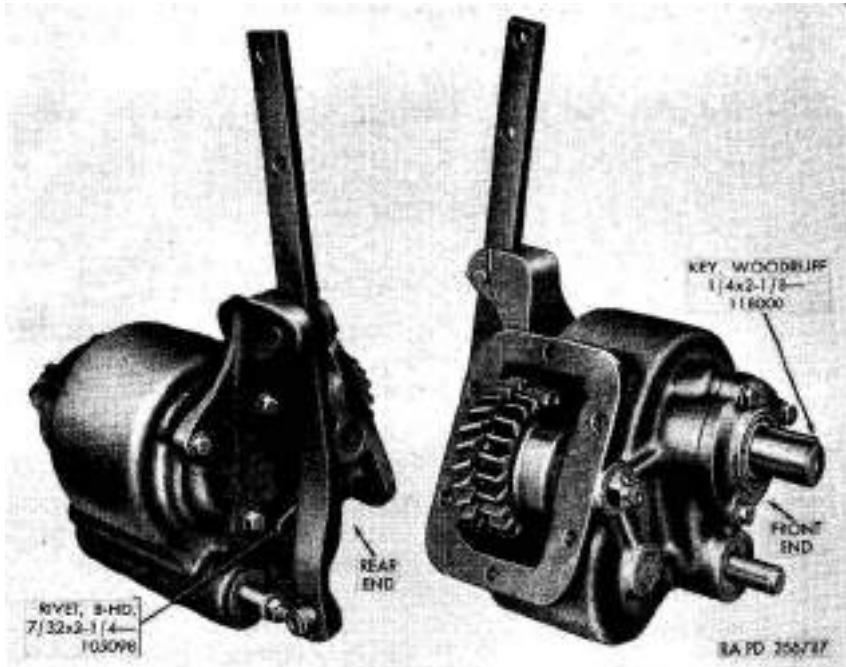
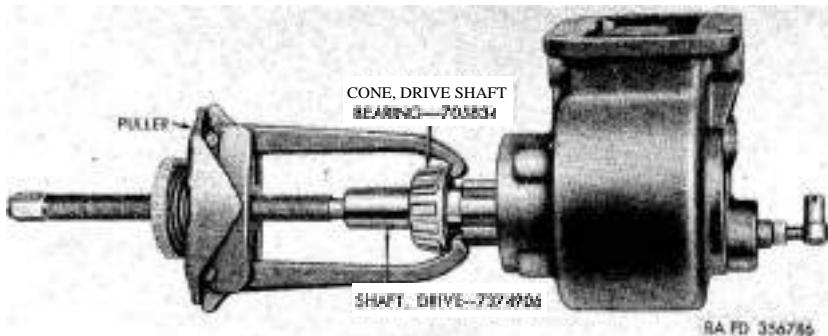

Figure 119. Power-take-off.
Figure 121. Removing drive shaft bearing cone with puller.
The power-take-off (fig. 119), which is mounted on left side of transmission, transmits power from transmission to the winch drive shaft for operation of the winch. The power-take-off provides clockwise and counterclockwise rotation. Both are controlled by a shift lever in driver's compartment.
- (1) Remove $5/16$ -18NC x $3/4$ cap screws (ZZ) and $5/16$ -inch washers (XX); then remove drive shaft end plate (WW) and drive shaft plate gaskets (B and VV) from housing. This is necessary to facilitate removal of rivet from reverse gear shaft (Z).
- (2) Cut off bent-over end of rivet (*fig. 119*) with a cold chisel and hammer. Drive rivet from housing with a punch and hammer.
- (3) Drive reverse gear shaft (Z) from housing with a bronze drift and hammer (drift at front end of shaft).
- (4) Remove reverse gear spacer (NN). Move sliding gear (RR) toward rear of housing to facilitate removal of reverse gear (QQ). Remove reverse gear and reverse gear roller bearings (FF and PP).
- (1) Remove $\frac{1}{4} \times 2\frac{1}{8}$ Woodruff key (*fig. 119*) from front end of drive shaft (L). Remove burs from area of keyway in drive shaft.
- (2) Remove $5/16$ -18NC x $3/4$ cap screws (S), $5/16$ -inch lock washers (R), drive shaft oil seal retaining plate (Q), and drive shaft plate gaskets (U and P) from housing (K).
- (3) Force front drive shaft bearing cup (N) and drive shaft (L) from housing with an arbor press.
- (4) Pull front drive shaft bearing cone (M) from drive shaft with a puller (*fig. 121*).
- (5) Force drive shaft and rear drive shaft bearing cup (C) from power-take-off housing with an arbor press.